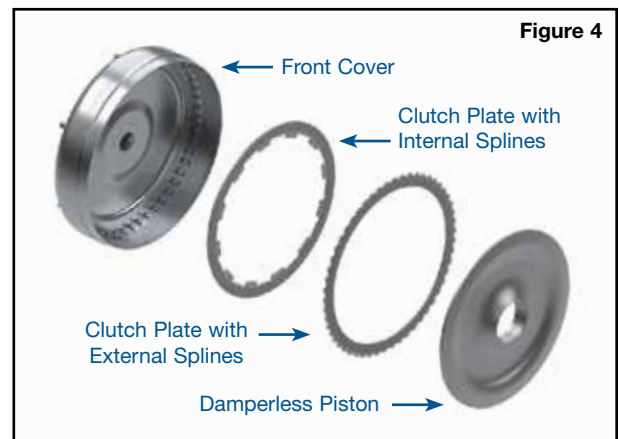

Figure 4
- a. Install Sonnax internally-splined (dual friction) clutch plate into front cover (**Figure 4**).
- b. Install Sonnax externally-splined (single friction) clutch plate into front cover, friction side facing out, steel side toward cover (**Figure 4**).